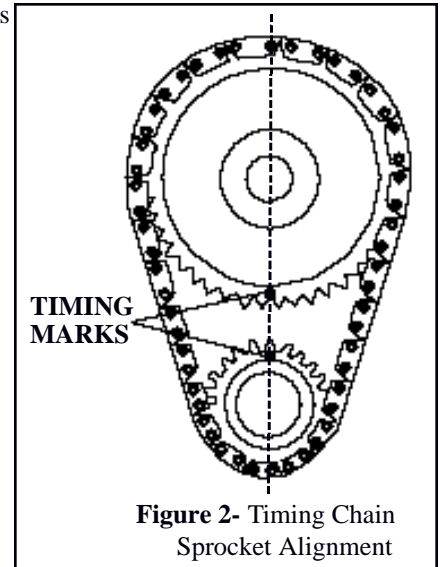

Figure 2- Timing Chain Sprocket Alignment
13. Rotate engine until timing marks are aligned as shown in Figure 2.
as recommended by factory specifications. See Figure 2. When using Performer-Plus Timing Chain and Gear Sets (7800 series) with Edelbrock cam and lifter kits, straight up timing alignment is achieved. If any other timing gear set is used, it is necessary to check cam position for correct timing alignment. This requires indexing the camshaft with a degree wheel to verify timing alignment. O.E.M. or non-Edelbrock timing gear sets are not recommended for use with Edelbrock camshafts.